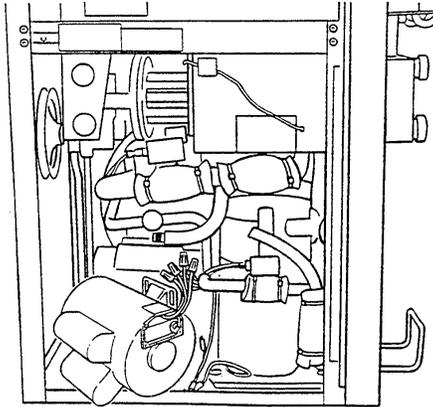

Figure 63. Drive Motor Wire Removal
3. Turn the motor and remove the electrical cover plate. Identify and disconnect the four electrical wires (Figure 63).